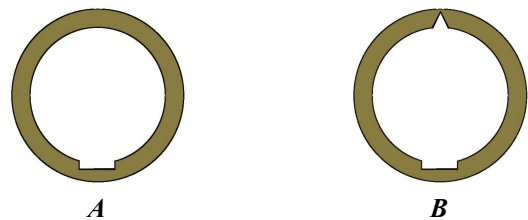

Figure 3
- **Step 6** Modify the two CR-2050 centering rings with flat notches, as shown in the left-side "A" image of Fig. 3. Modify **one** of these rings with a "V" notch as shown in the right-side "B" image.